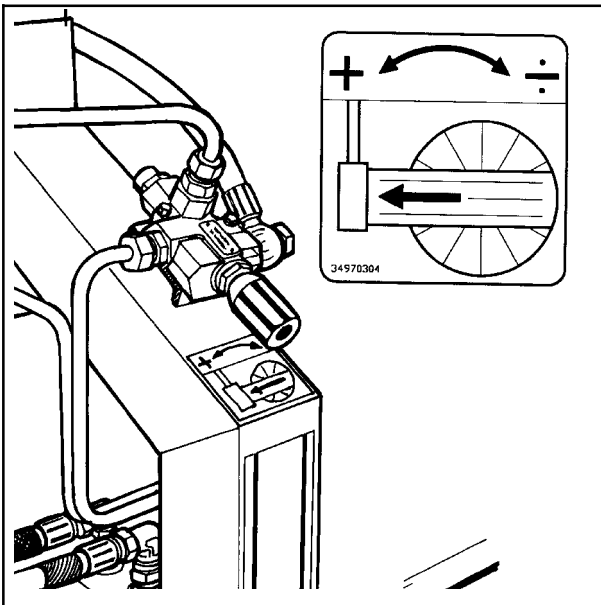

Fig. 8-1
- 8.2 The control valve on the "shoulder" where the hydraulic hoses come in to the machine, is for adjustment of the wrapping arm speed. (See fig. 8-1).